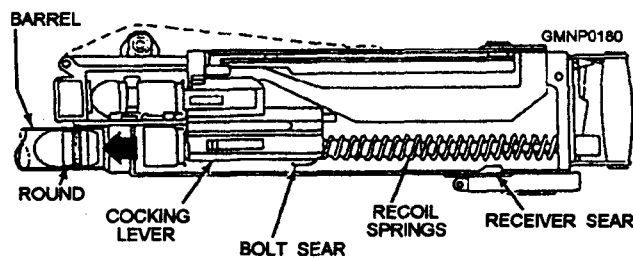

Figure 3-106.—Mk 19 Mod 3 machine gun firing sequence.
**FIRING.**— With the weapon in the full-load condition, pressing the trigger causes the receiver sear to release the bolt. The recoil springs force the bolt forward (fig. 3-106). As the bolt travels forward, the cocking lever is released and the bolt sear strikes the receiver plate, pushing it rearward. This movement of the bolt sear releases the firing pin, which strikes the primer and fires the round.